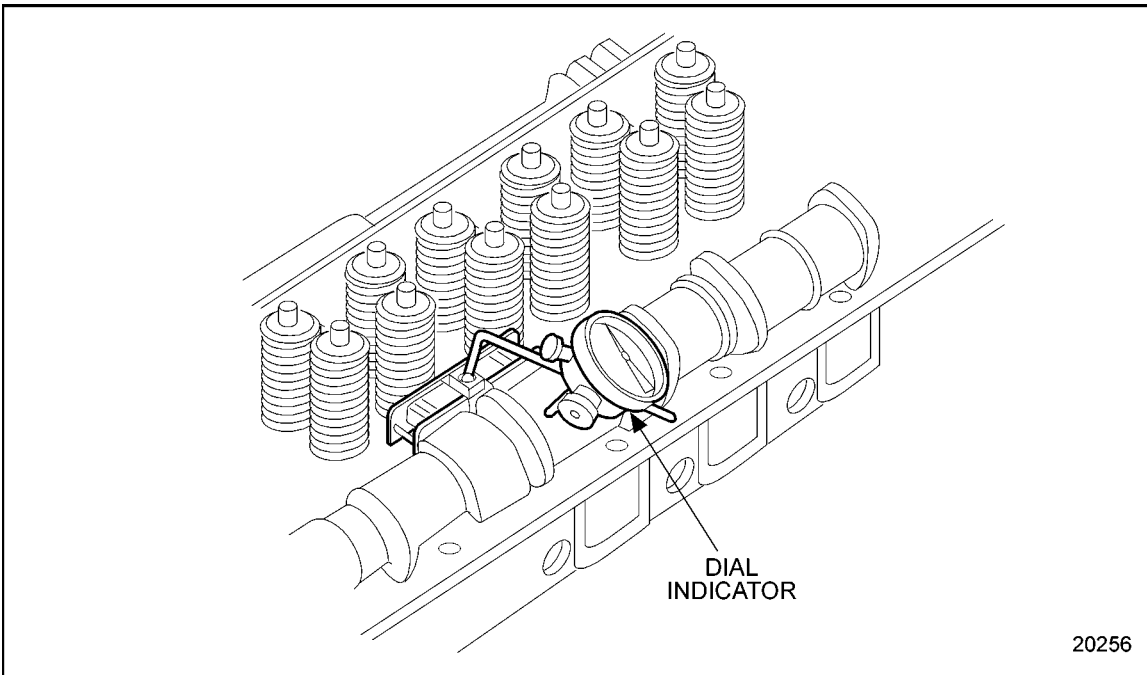

Figure 1-359 Camshaft Run-out Measurement
- [n] Using a dial indicator with magnetic base, check the run-out of the camshaft at the No. 4 bearing journal. See Figure 1-359.